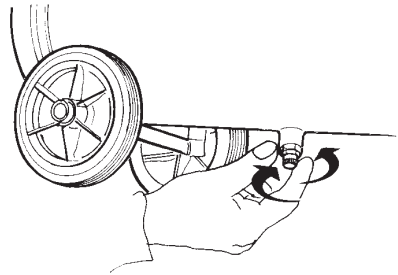

fig. 4
- check the condensation outflow tap (fig. 4);
- Remove the condensation outflow tap if pressure is in the tank (*fig. 4*).
Before carrying out any type of maintenance intervention, unplug the compressor and let the tank pressure out by opening the condensation outflow tap (*fig. 4*); unscrew the tap carefully and let the air out slowly, as metal residues might be in the tank.
#### Condensation outlet (*fig. 4*)
- empty all the air in the tank (*fig. 4*);